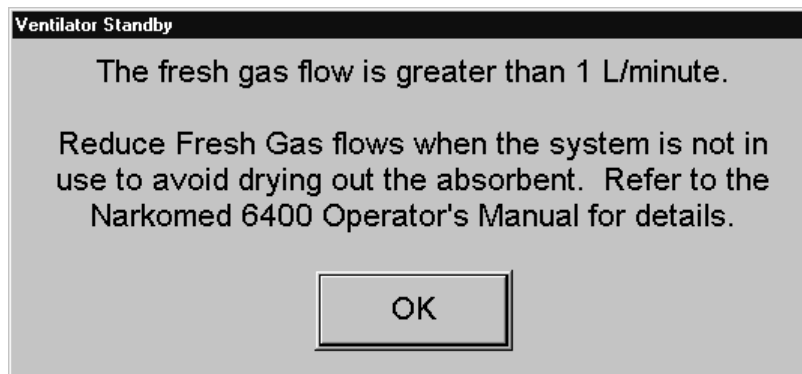

Figure 8-20. Ventilator Standby Confirmation Dialog Box - Fresh Gas Flow >1 L/min
- if the total fresh gas flow is greater than one liter per minute, the system displays the confirmation dialog box shown in Figure 8-20.